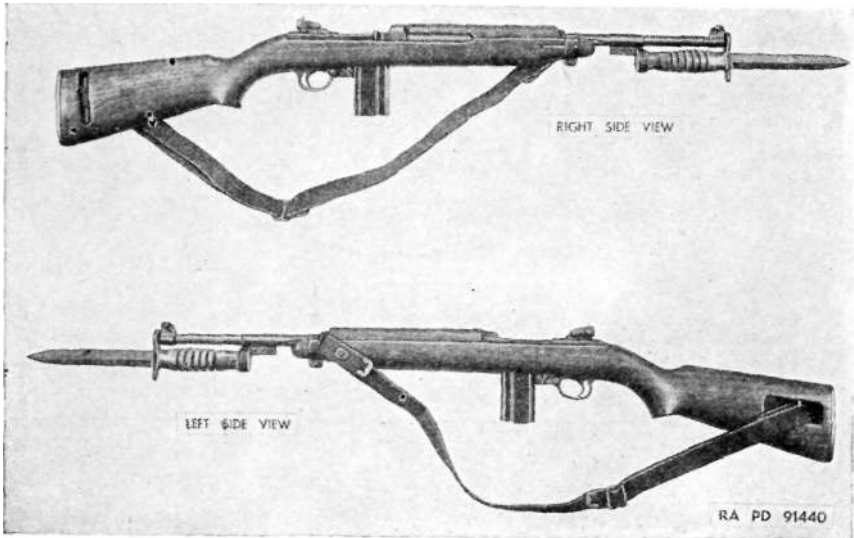

Figure 1. Carbine, cal. .30 M1.
a. CARBINE CAL. .30, M1 (fig. 1). This model is the basic carbine. It has a one-piece wooden stock and a hand guard. One end of a sling is attached to a swivel fastened to the front band which retains the stock and hand guard; the other end is looped around an oiler, which is inserted into the right side of the rear end of the stock. The front sight is of the blade type fastened to the muzzle end of the barrel. The rear sight is the adjustable type, either D73955 (machined type) or D7160060 (stamped type). The two sights differ only in method of manufacture.